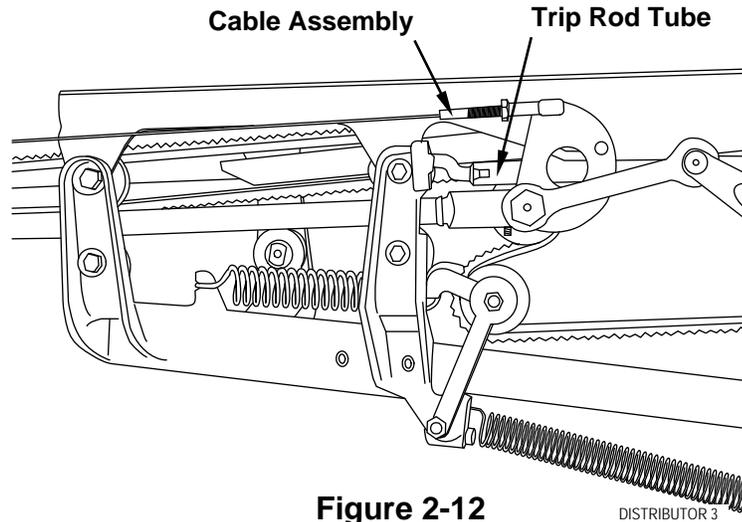

Figure 2-12
7. Adjust the length of the cable assembly (Figure 2-12) so that the clearance between the nylon rollers and the trip rod tube is approximately 1/16 inch (Figure 2-11) and is the same in all positions of the distributor.